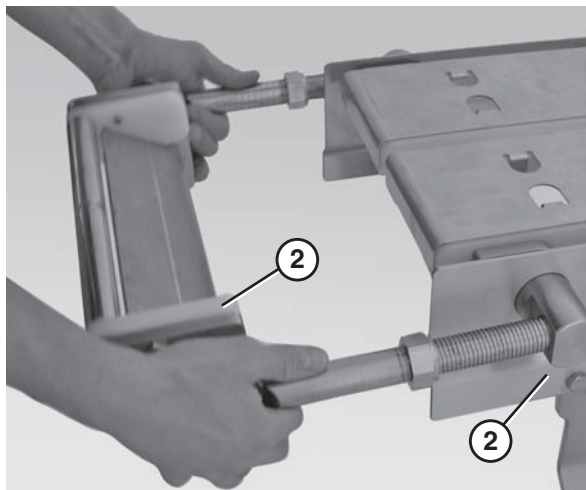

Figure 70
2. Slide the nose bar tail assembly (Figure 70, item 1) out of the take up blocks (Figure 70, item 2).